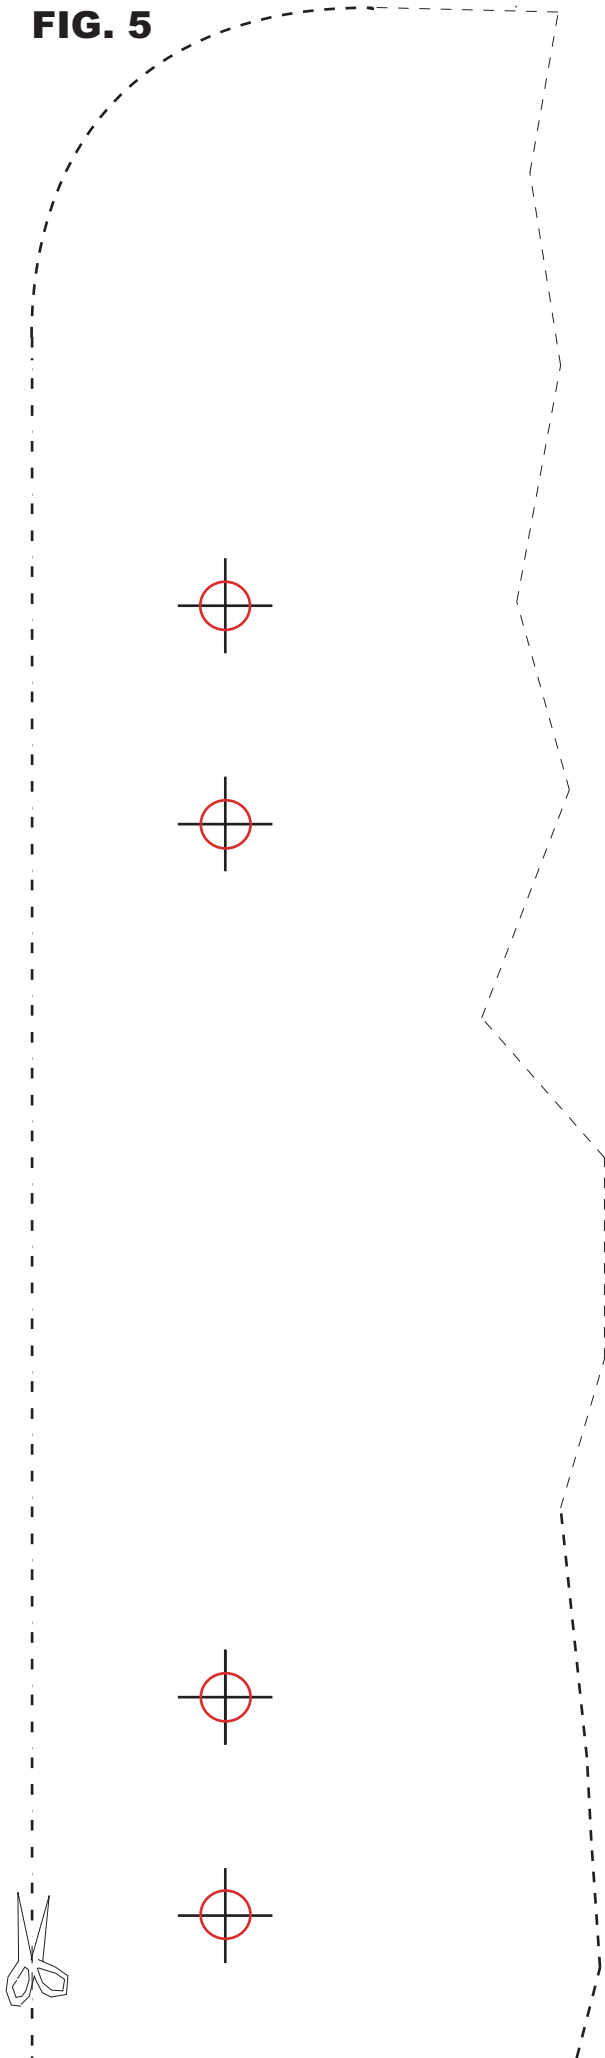

FIG. 6
- a. Set out with a pencil, at the connection point of two supports, two vertical lines at a distance of 9mm (0,35") (to rotate 13°, configuration B or C) (fig. 6) or 13mm (0,51") (to rotate 18°, configuration D) (fig. 8).